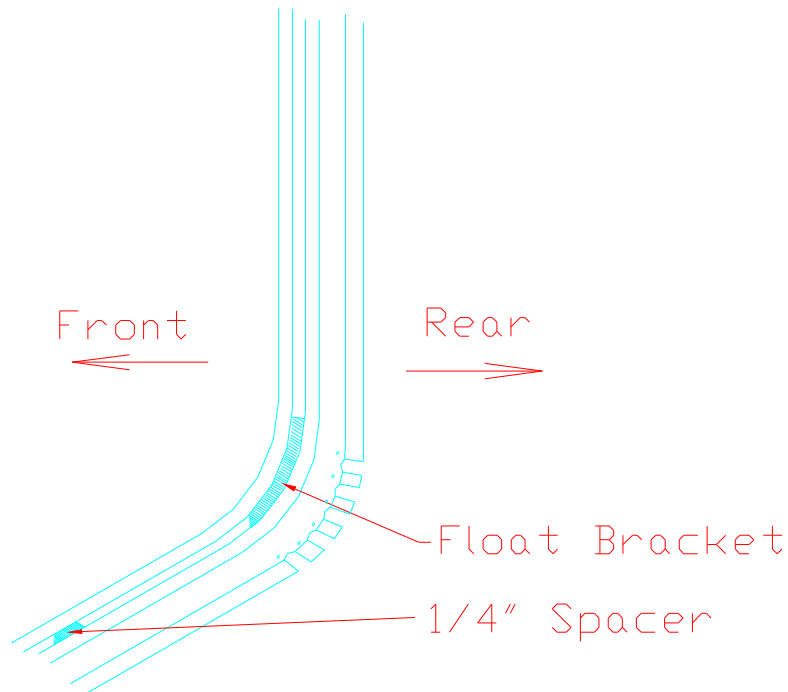

Figure 12.27.4
- 14) Put the brackets back in place and cleco together with the bulkheads on each side as in figure 12.27.4. Also place a 1/4" spacer on the floor between the bulkheads at the center of the aircraft.